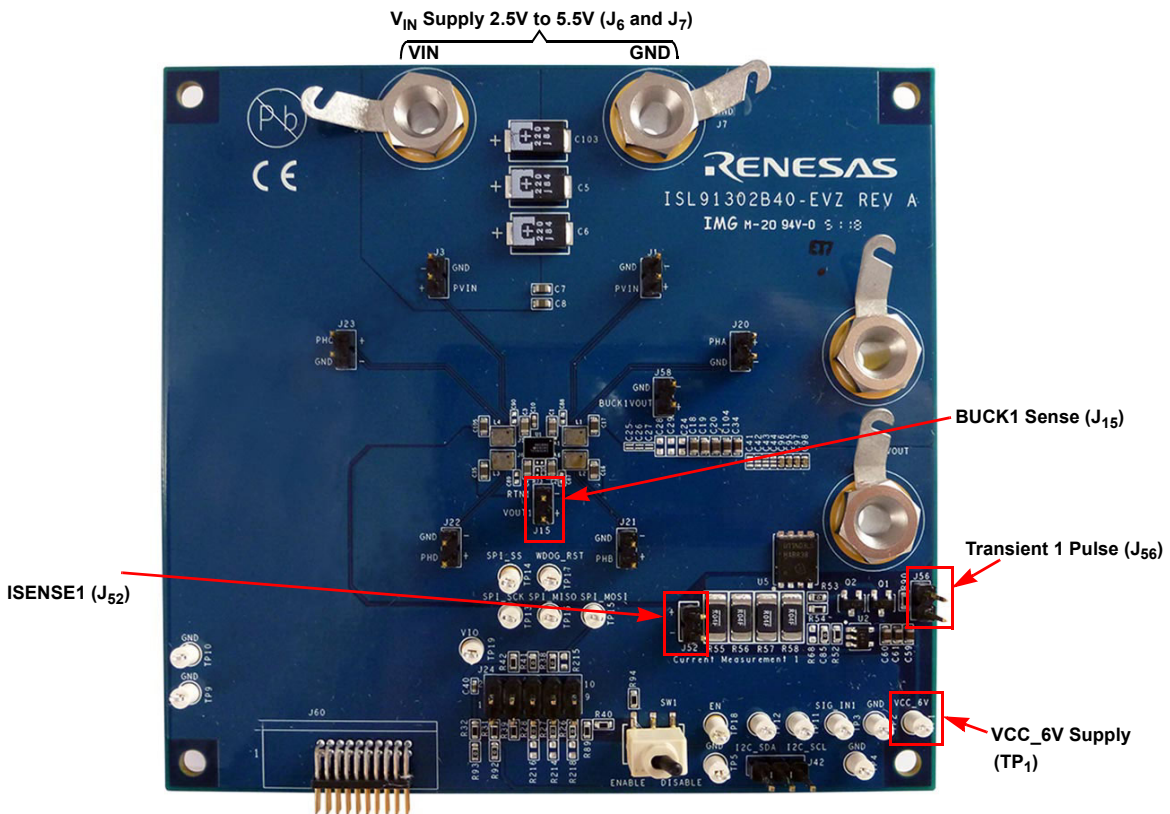

Figure 12. ISL91302B40-EVZ Load Transient Measurement Connections
- (1) Go through the setup procedure (see “Setup Guide” on page 5). The ISL91302B40-EVZ should already be powered up with 2.5V to 5.5V at J₆ (VIN supply) and 6V at TP₁ (VCC_6V).
- (2) Connect a slew rate controllable signal generator to the transient load circuit input, J₅₆ (TRANSIENT 1 PULSE GEN).
- (3) Program the signal generator to pulse mode, set the frequency to 100Hz, ON duration to 200 μ s, and signal amplitude from 0V to 2V. The load transient circuit starts to turn on when the input is \sim 2.6V. When in doubt, connect the signal generator output to an oscilloscope set to 1M Ω termination. The rising and falling time of the pulse should be conservatively slow, for example, 1 μ s.
- (4) Connect a differential probe to monitor load current across the sense resistors J₅₂ (ISENSE1). The load current can be accurately converted to a voltage at 1A/10mV. Make sure the vertical scale of the oscilloscope is set properly to display the full amplitude of the load profile.
- (5) Connect a second differential probe at the VOUT sense points connected to the VOUT decoupling capacitors, J₁₅ (BUCK1 SENSE).
- (6) Set the oscilloscope to measure the rise and fall times and maximum level of the load current. Slowly increase the signal generator amplitude and slew rate until desired load profile is achieved. For detailed setup information, see Figure 12 on page 11.